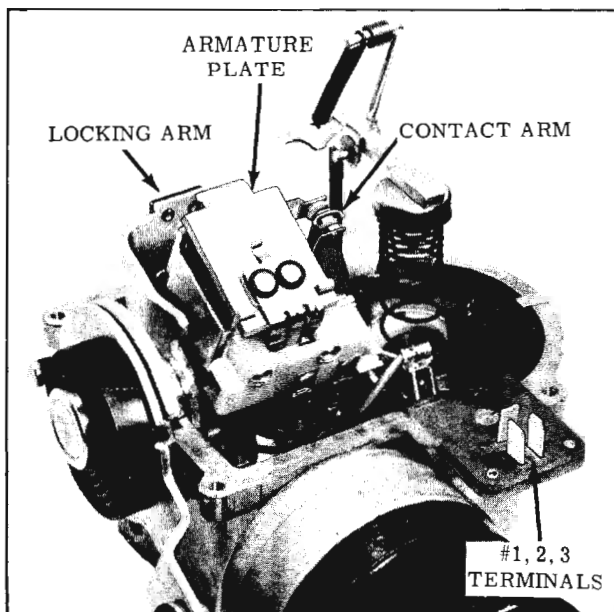

Fig. 13-26 Connections for Motor Operation
4. Move locking arm against magnet and press down on armature plate to latch unit, simulating automatic control. (Fig. 13-26)